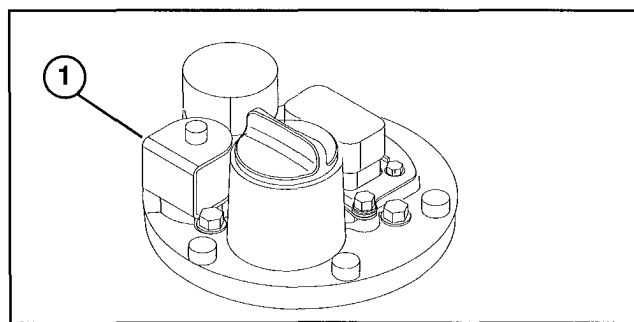

Figure 27
- Valve open circuit (LED blinking): Check / replace TurfDefender electric solenoid valve (Fig. 27) or wires.
- Valve short circuit (LED blinking): Check / replace TurfDefender electric solenoid valve (Fig. 27) or wires.